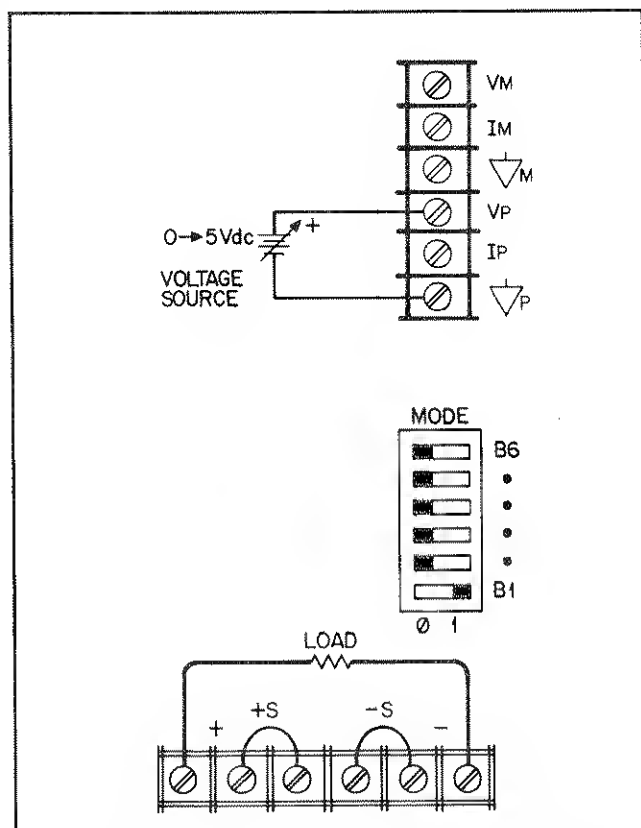

Figure 3-10. Voltage Programming of Output Voltage
**3-204 Constant Voltage Output, Voltage Control.** The setup shown in Figure 3-10 allows the output voltage to be varied by using an external voltage source to program the supply. A voltage source variable from 0 to +5 volts produces a proportional output voltage from zero to full scale. The static load on the programming voltage source is less than 5 $\mu$ A. A source resistance of less than 10 k is necessary to avoid degradation of offset and drift specifications.